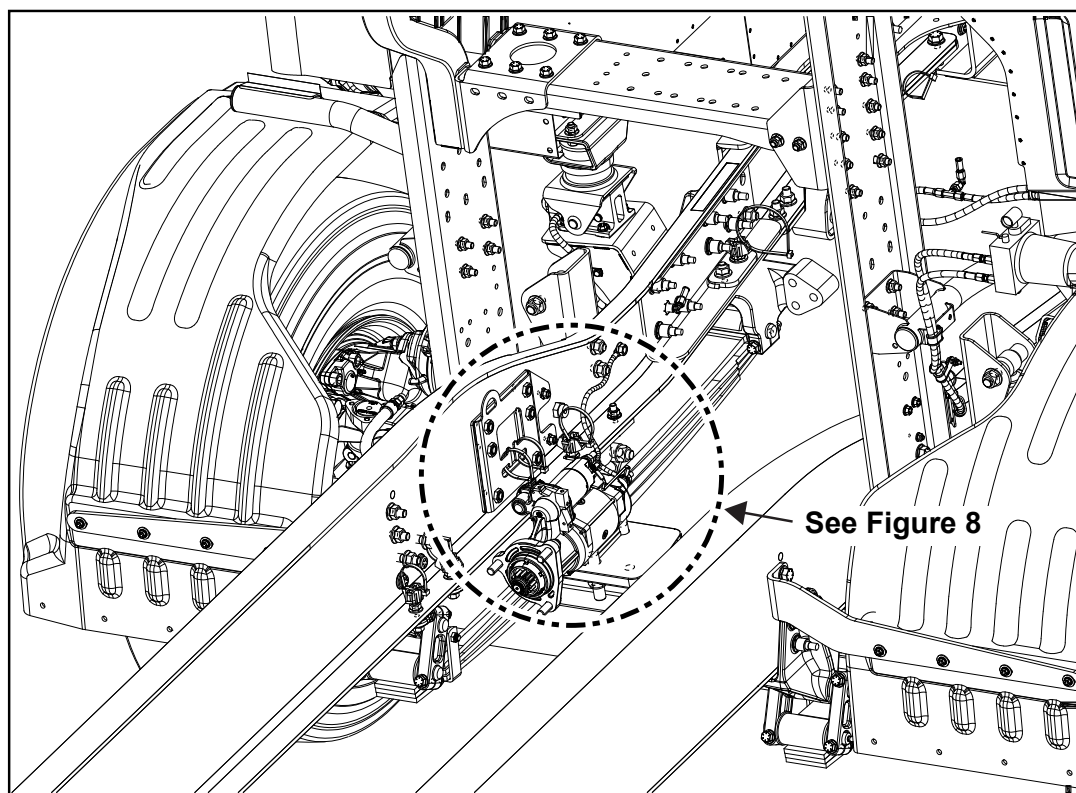

Figure 7, Starter Left Inboard Side (Harnesses Removed for Clarity)
2. Locate the grounding cable at the forward end of the starter, remove the bolt attaching the grounding cable to the frame rail and the nut attaching the grounding cable to the starter, and set aside the nut and bolt for re-installation (*see Figures 7 and 8*).
4. Install the S8721017-002 grounding cable to the starter and reinstall the bolt and nut set aside in step 2 (*see Figures 7 and 8*).